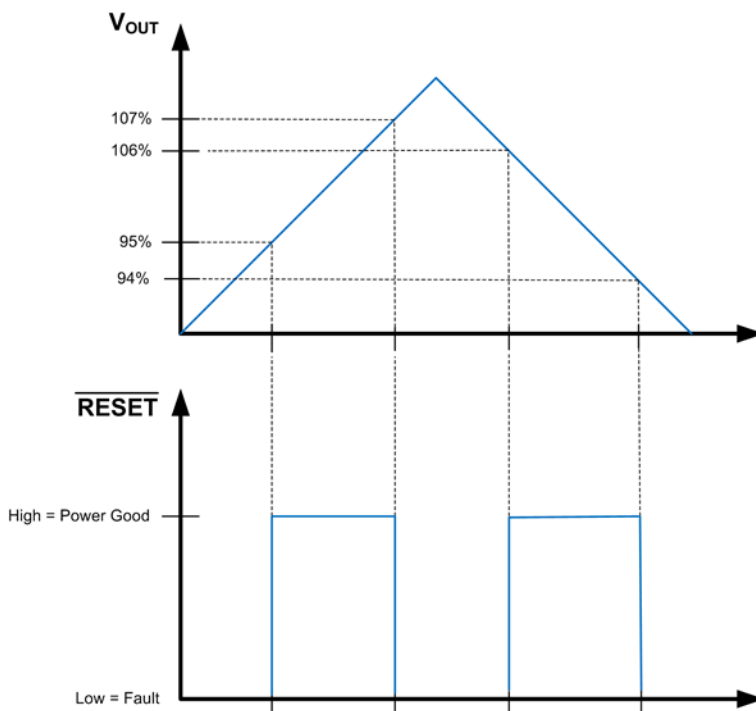
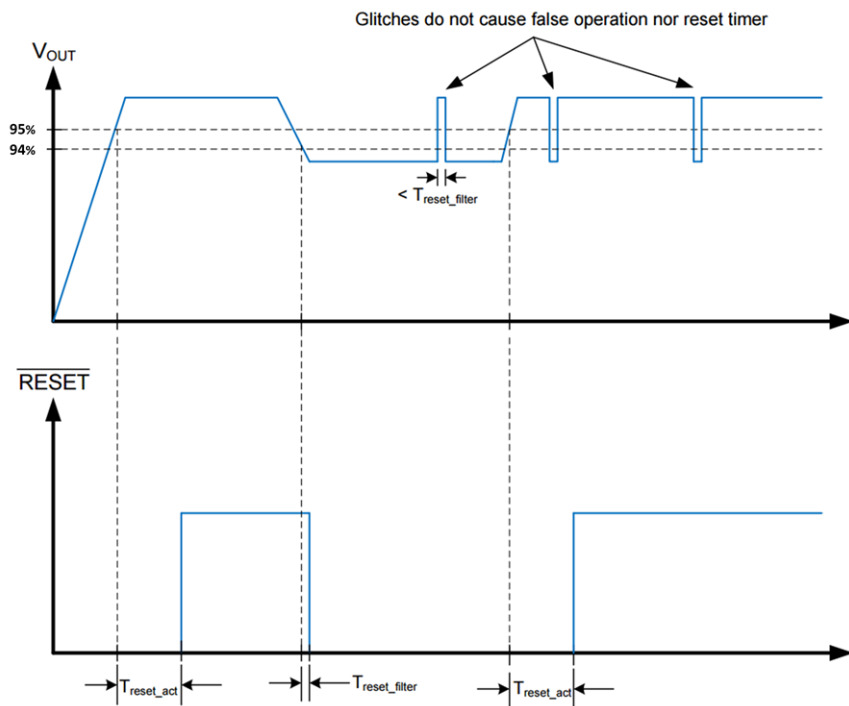
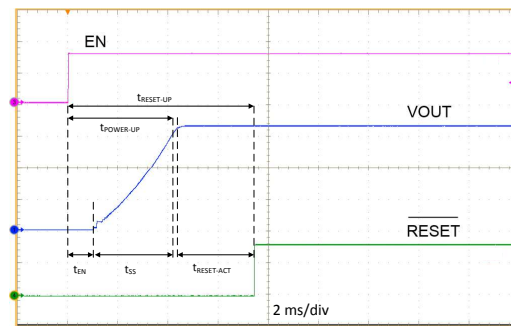

Figure 10. Static $\overline{\text{RESET}}$ Operation
Figure 11. RESET Timing Behavior
Figure 12. Typical Start-Up Waveform
- A delay has been added between the point at which the output voltage is within specified limits and the flag asserts Power Good. A glitch filter prevents false flag operation for short excursions in the output voltage, such as during line and load transients. See Figure 11 and Figure 12 for more detail.
Because the $\overline{\text{RESET}}$ comparator and the regulation loop share the same reference, the thresholds track with the output voltage. When EN is pulled low, the $\overline{\text{RESET}}$ flag output is forced low. When the device is disabled, $\overline{\text{RESET}}$ remains valid as long as the input voltage is ≥ 1.5 V. $\overline{\text{RESET}}$ operation can best be understood by reference to Figure 10 and Figure 11. Output voltage excursions lasting less than $T_{\text{RESET-filter}}$ do not trip $\overline{\text{RESET}}$. Once the output voltage is within the prescribed limits, a delay of $T_{\text{RESET-act}}$ is imposed before $\overline{\text{RESET}}$ goes high. This enables tighter tolerance than is possible with an external supervisor device while also expanding the system allowance for transient response without the need for extremely accurate internal circuitry.
A typical start-up waveform is shown in Figure 12 along with timing definitions. This waveform indicates the sequence and timing between the enable input, output voltage, and $\overline{\text{RESET}}$. From the figure, the user can define several different start-up times depending on what is relevant to the application. Table 2 lists the timing definitions and typical values.